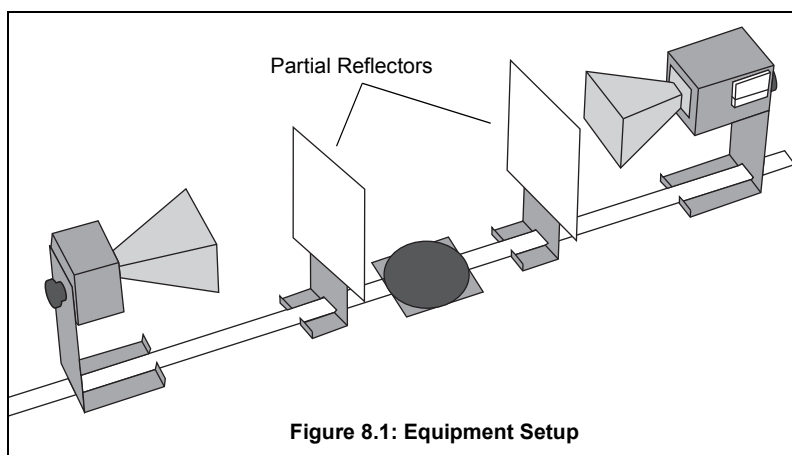

Figure 8.1: Equipment Setup
When an electromagnetic wave encounters a partial reflector, part of the wave reflects and part of the wave transmits through the partial reflector. A Fabry-Perot Interferometer consists of two parallel partial reflectors positioned between a wave source and a detector (see Figure 8.1).
1. Arrange the equipment as shown in Figure 8.1. Plug in the equipment and adjust the Receiver controls for an easily readable signal.